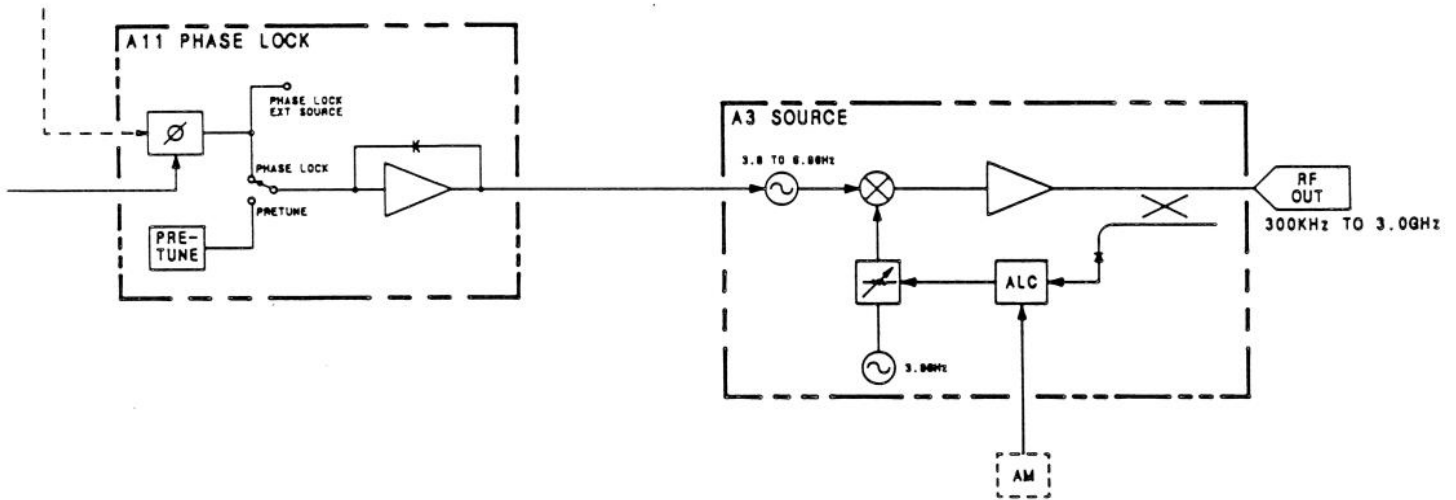
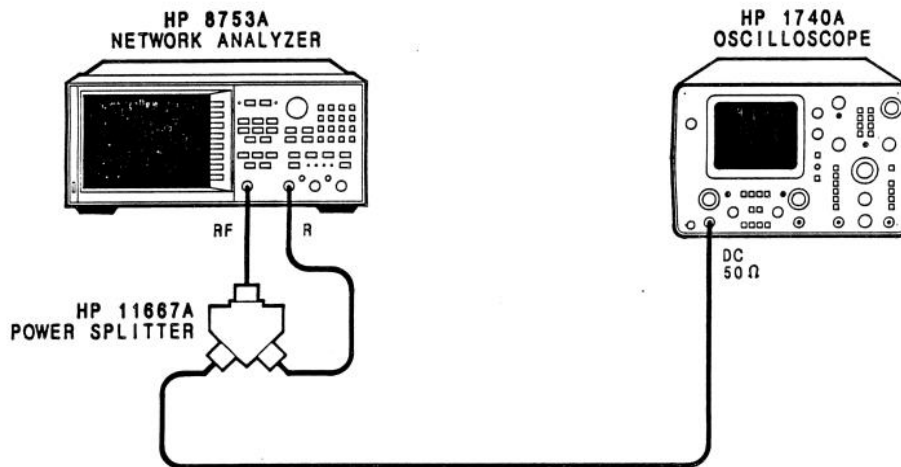

Figure 18. Source Pretune Block Diagram
Figure 19. Pretune Test Equipment
3. The pretune portion of the source group phaselocking will now be exercised (see Figure 18). The following sequence of keys will allow the user to "break the loop" to test the A11 phaselock and A3 source assemblies. Connect the equipment as shown in Figure 19.